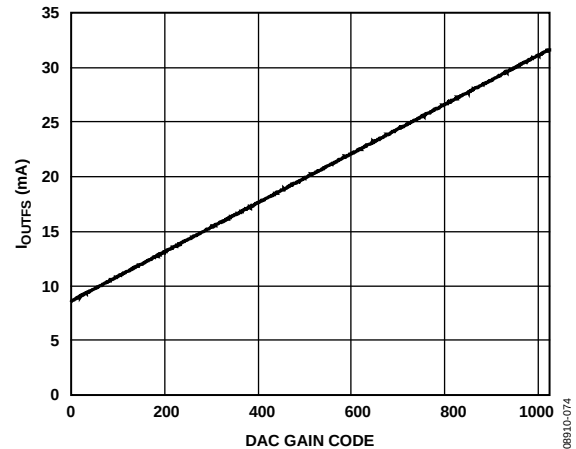

Figure 76. DAC Full-Scale Current vs. DAC Gain Code
For nominal values of  $V_{REF}$  (1.2 V),  $R_{SET}$  (10 k $\Omega$ ), and DAC gain (512), the full-scale current of the DAC is typically 20.16 mA. The DAC full-scale current can be adjusted from 8.66 mA to 31.66 mA by setting the DAC gain parameter setting as shown in Figure 76.